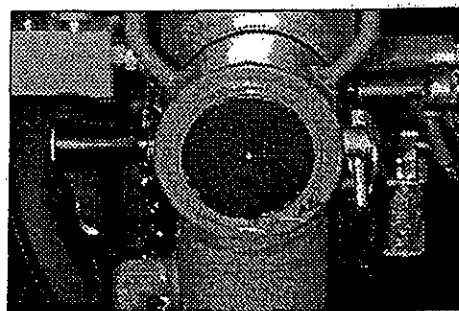

fig. 32
- Carefully position the ram, insert the locking pin in its new seat and secure it with the check pin (fig. 32).